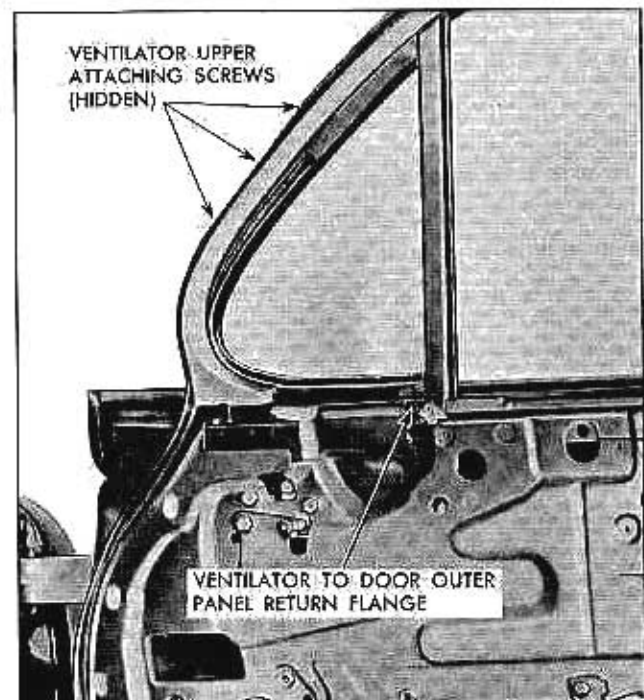

Fig. 2-21 Ventilator Regulator Assy.—Sedans
3. Lower door window. Remove ventilator to door outer panel return flange attaching screw (Fig. 2-21).
5. Remove ventilator upper attaching screws along window frame (Fig. 2-21)